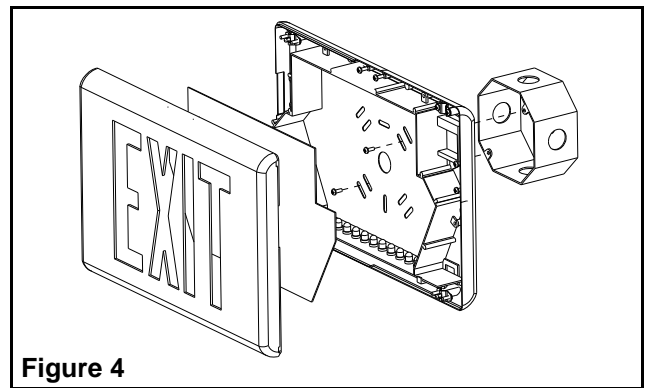

Figure 4
- a. No canopy required (see fig.4). Determine the proper knockout in the back cover for mounting. Support the area around knockout with two blocks of wood. Strike knockouts from the inside with a hammer and screwdriver. Follow the chevron’s knockout procedure in the Canopy mount section, step e.